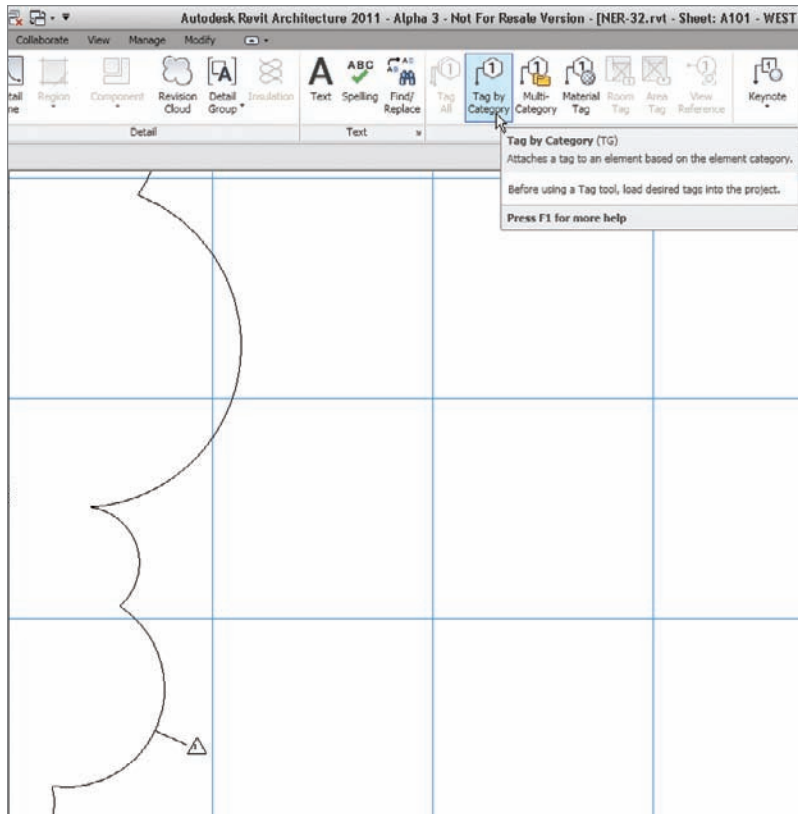

FIGURE 14.19 The revision tag has been added to the cloud. Also, notice the title block has Revision 1 added to it.
5. On the Annotate tab, click Tag By Category, as shown in Figure 14.19.
9. Pick the revision cloud. You now have a tagged revision cloud, as shown in Figure 14.19.